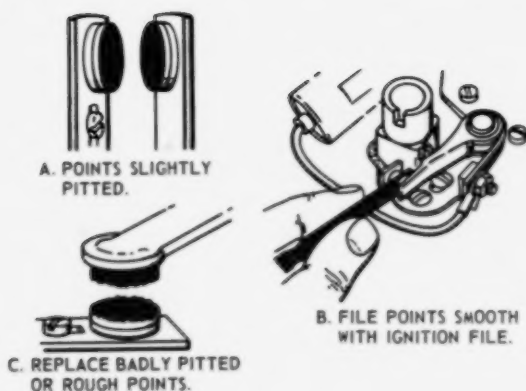

Fig. 57—Checking And Reconditioning Breaker Points
If the surfaces are rough but show only slight pitting and metal deposits (Fig. 57, A), file them smooth with an ignition file (B). Keep the surfaces parallel and flat. Do not use sandpaper or emery cloth; particles may
If the points are badly pitted with very rough surfaces (Fig. 57, C), replace them. See "Replacing Breaker Points" on the following page.